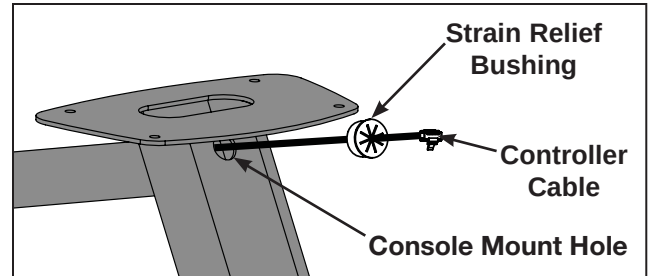

Figure 12
- A. Route the controller cable down through the monitor mount until the cable exits the hole in the console mount. See Figure 12.
- A. Insert controller cable through the strain relief bushing. See Figure 12.